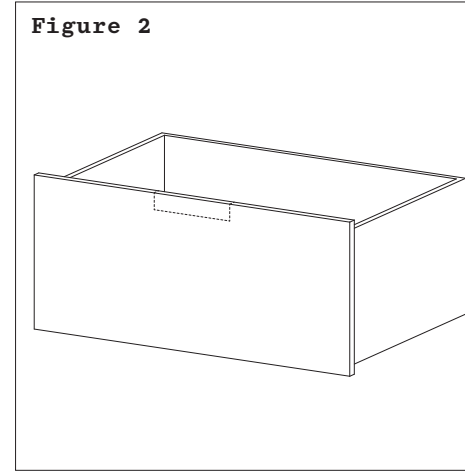

Figure 2
2. Affix the template below inside the drawer. (Figure 2)